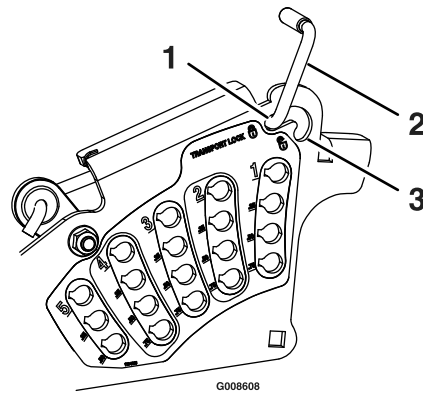

Figure 10
Position in the transport latching position to automatically latch the cutting deck when raised to the transport position (see item 1 in Figure 10).
In the non-latching position, the deck will automatically return to the cutting height when the pedal is lowered (see item 3 in Figure 10).